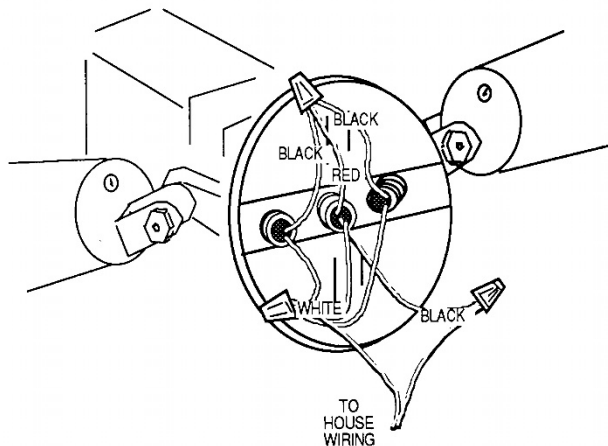

Figure 6
- Securing the wires with solderless wire connectors, as shown in **Figure 6**: